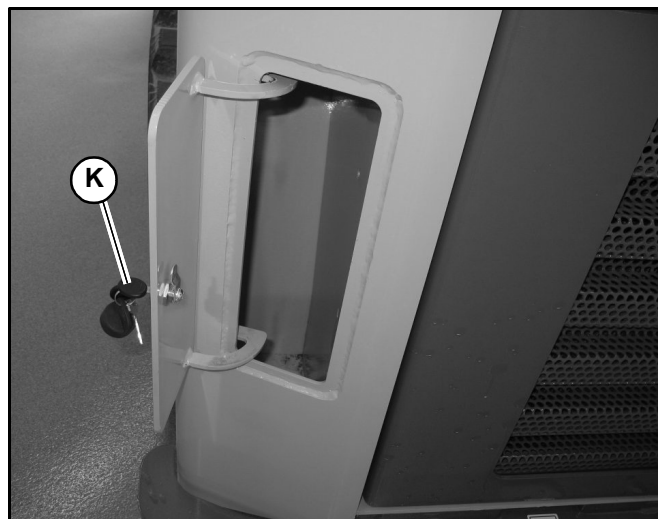

**Fig. 84 – Tie-Down Point Identifier**
- c. Securely strap the machine at the tie-down points (Fig. 84) to the platform. Use only belts or chains of sufficient capacity.